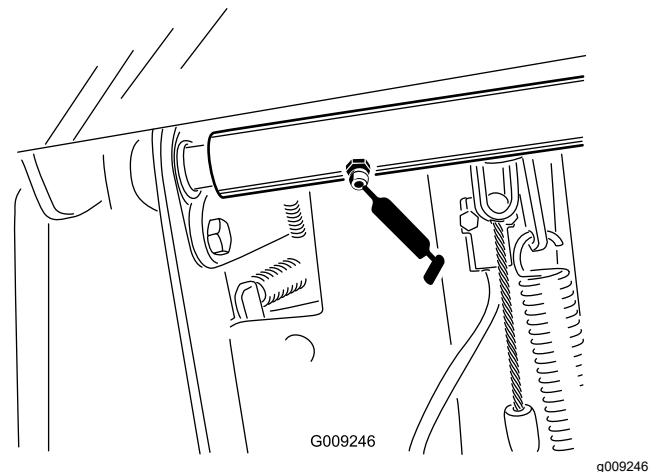

Figure 77
- 2 brake pedal pivot-shaft bearings (Figure 77)